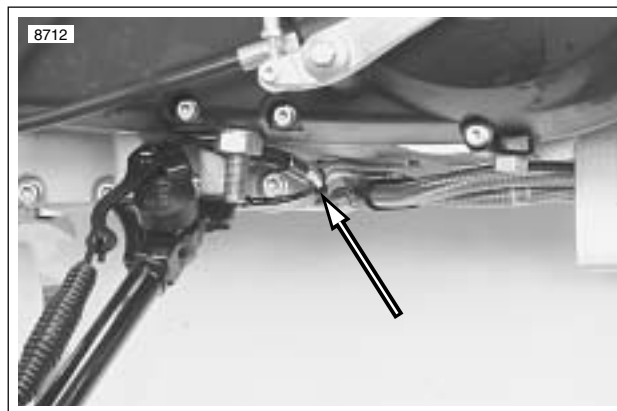

Figure 3-21. Sidestand Switch with Cable Strap
- See Figure 3-21. Cut cable strap securing sidestand switch harness.